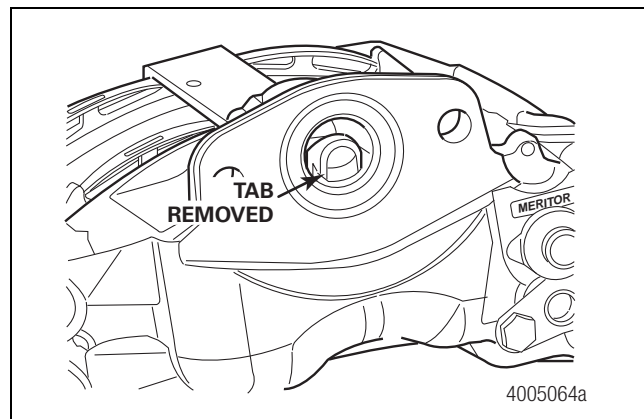

Figure 7.5
3. Before you install the air chamber onto the caliper assembly, ensure the perforated transit plug is removed from the caliper chamber seal by pulling the tab. Figure 7.4 and Figure 7.5.